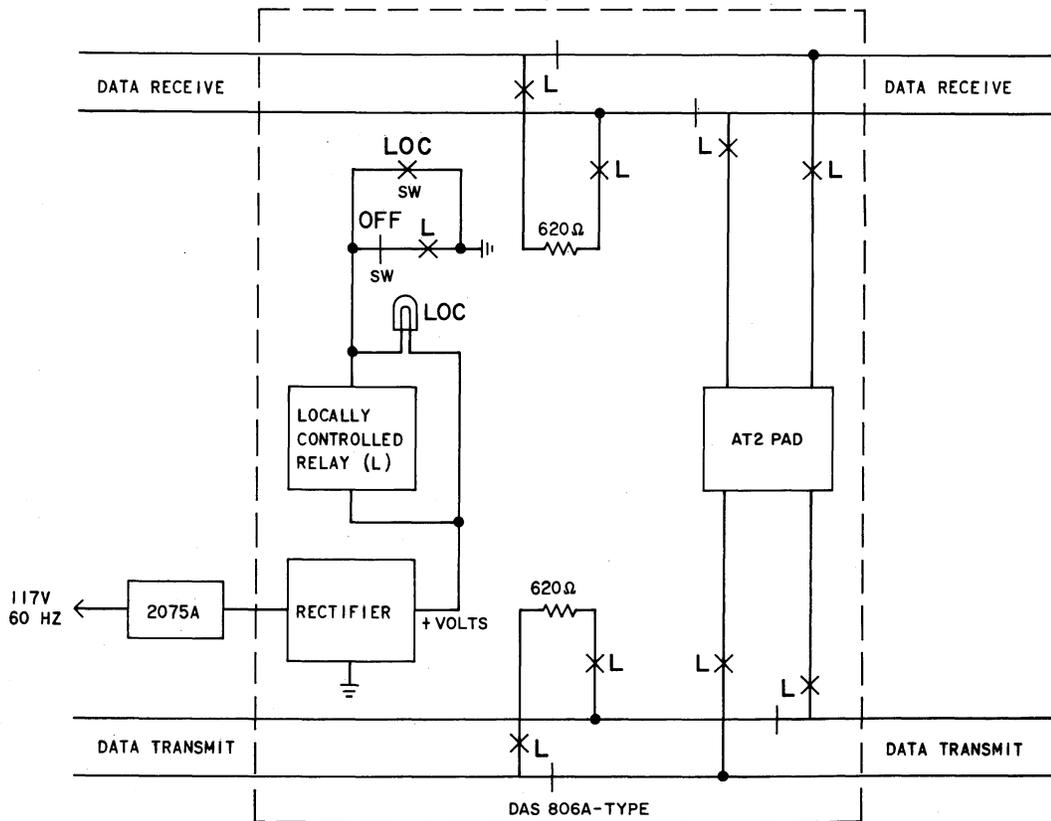

Fig. 5—Local Operation of DAS 806A-Type
3.04 In the local operate mode (Fig. 5), the L relay loops the station lines together through the AT2 pad and terminates the facility lines in 620 ohms. The L relay is actuated by current through the LOC pushbutton-indicator on the set, or through the auxiliary ON-OFF switch. The set is returned to the off condition by closing the OFF switch on the set or the auxiliary switch.